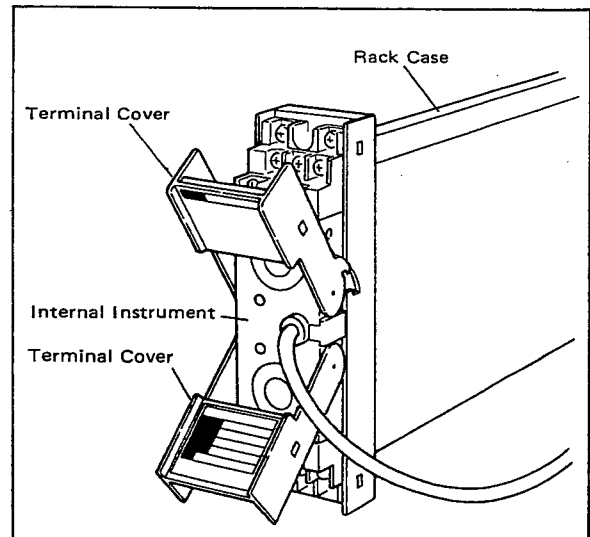

Figure 3-2. Internal Instrument and Terminal Cover.
- (1) The terminal block (4 mm screw terminal) can be seen when the terminal cover is opened as shown in Figure 3-2.
- (2) For wiring to each terminal, refer to Table 3-1.
- (3) After completing the wiring, always replace the terminal cover.